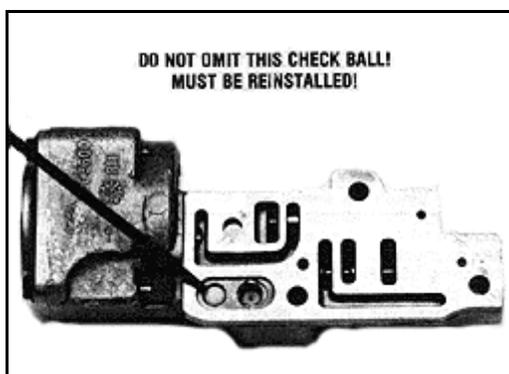

Figure 9
STEP 8 Place the separator plate with gasket against the transmission case. Install the small support plate (1982-1986) or auxiliary valve body plate (1987 and later). Install check ball (**See Figure 9**) and four (4) OEM bolts loosely. Insert two (2) valve body bolts into the two (2) alignment holes in the separator plate. Tighten the support plate bolts. Remove two (2) valve body bolts from the alignment holes.
STEP 9 INSTALL VALVE BODY: Be sure to engage manual valve with linkage properly. Do not force the valve or bend the linkage during assembly. Install one (1) valve body bolt to hold the valve body into place. **DO NOT TIGHTEN BOLT**